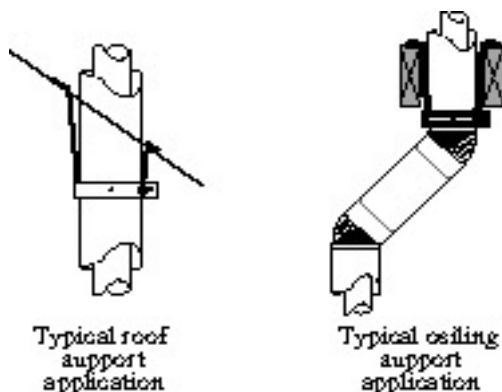
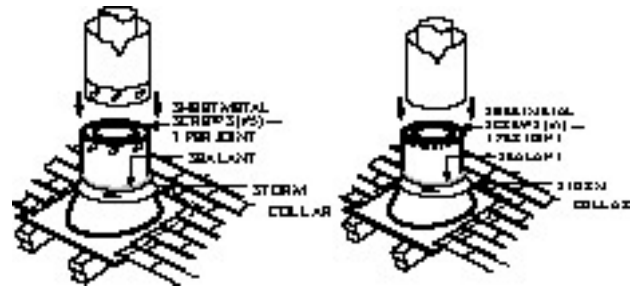

Fig. 36
Fig. 37
- 7DVCS must be used to support offsets. (Fig. 36) This application will require that you first determine the roof pitch and use the appropriate starter kit. (See Venting Components List)
7. Install roof support (Fig. 36) and roof flashing making sure upper flange of flashing is below the shingles. Fig. 37.
8. Install appropriate pipe sections until the venting is above the flashing. (See Fig. 37).
The enlarged ends of the vent section always face downward, Fig. 37.